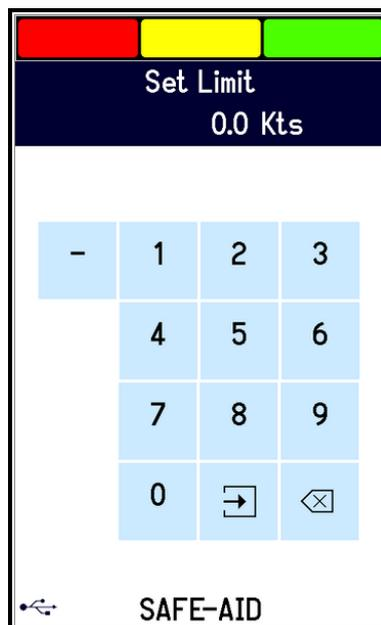

Figure 16
2. Enter the three digit password [- - -] followed by the **Enter** button the Set Limit screen will be displayed (figure 16).